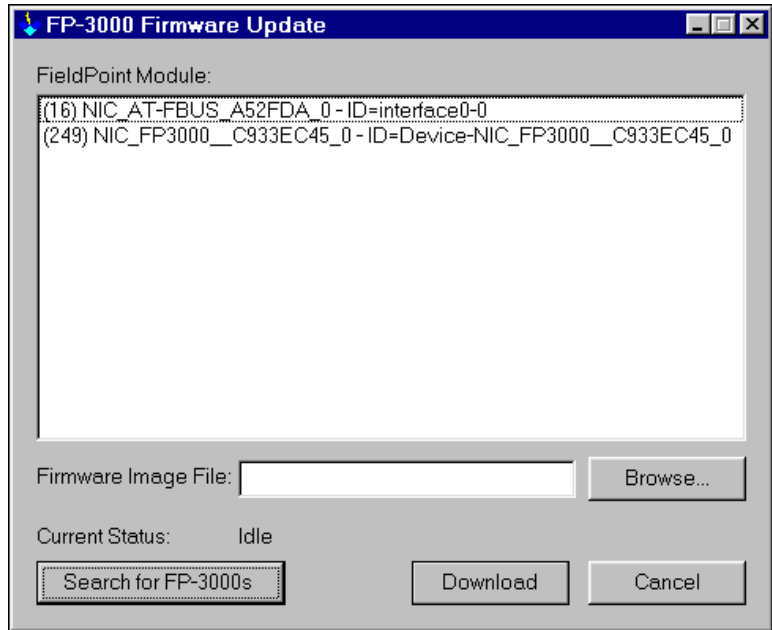

Figure 2-15. FP-3000 Search Dialog Box
2. Click on the **Search for FP-3000s** button. This causes the update utility to search every Fieldbus segment on the host PC for FP-3000 modules. Located modules are displayed as shown in Figure 2-15.